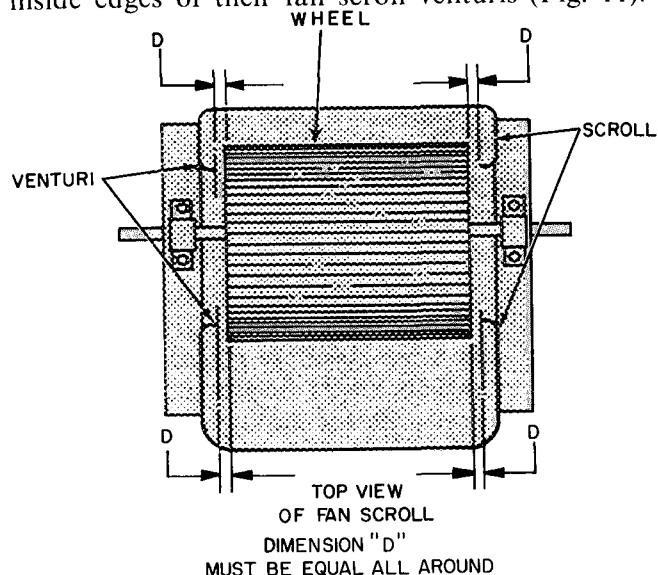

Fig. 11 — Horizontal Wheel Centering
HORIZONTAL WHEEL CENTERING — All wheels must be horizontally centered between the inside edges of their fan scroll venturis (Fig. 11).
2. Slide shaft and wheel assembly horizontally until wheels are horizontally centered (Fig. 11).